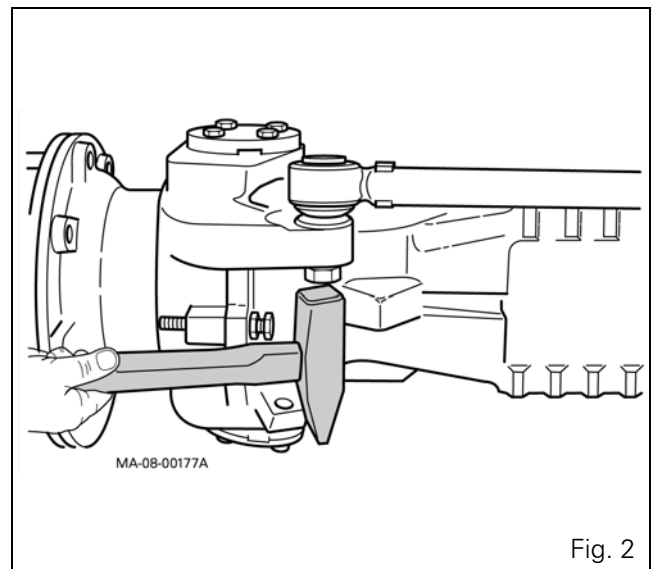

Fig. 2
6. Strike the nut with a hammer to extract the selector rail from the swivel housing (Fig. 2).